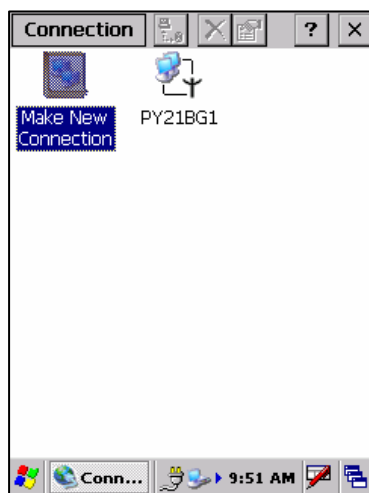

Fig. 3.29
1. Double tap **Make New Connection** icon shown in Fig. 3.29 to establish a new connection.